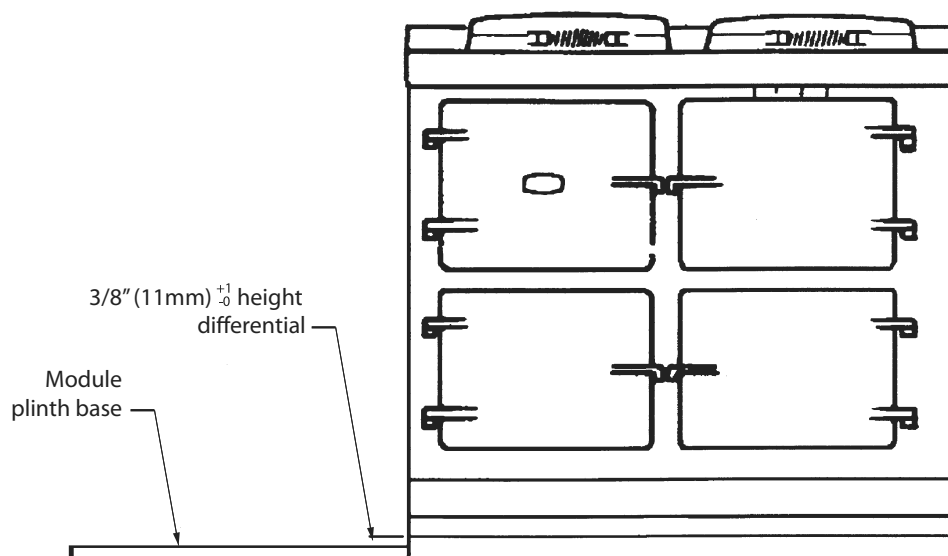
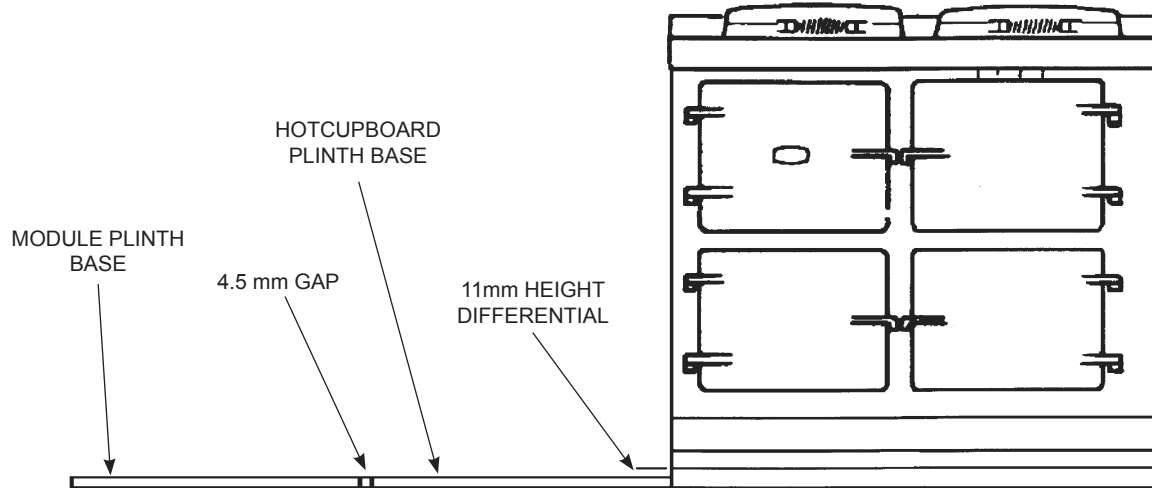

Fig. 9.3
Fig. 9.4
4. The Module plinth can now be levelled and fitted up to the main appliance. Position the Module plinth alongside the AGA TC3/DC3 leaving no gap between the two plinths. (See **Fig. 9.3**).
8. Also check height differential between the Module plinth and AGA Total/Dual Control plinth is correct: 11 mm. If necessary, use the adjusting studs in each corner to level the plinth. In extreme instances, shims may be used underneath the plinths (See **Fig. 9.3** or **Fig. 9.4**).